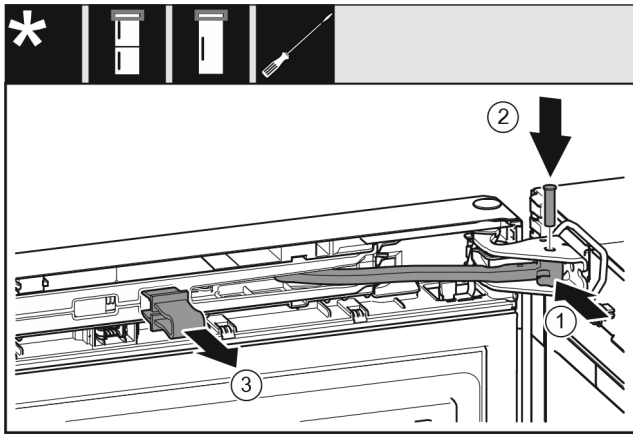

Fig. 26
- ▶ Turn the hinge in the bearing bracket. Fig. 26 (1)
- ▶ Insert the bolt in the bearing bracket and hinge. Make sure that the latching lug is sitting correctly in the groove. Fig. 26 (2)
- ▶ Remove the locking device. Fig. 26 (3)